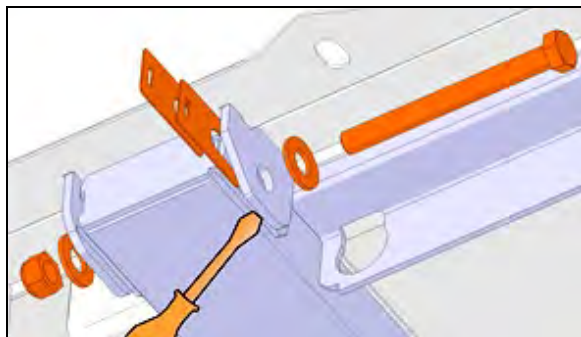

FIGURE 29: SHIM INSTALLATION, TRANSVERSE SCREW. ARRANGEMENT MAY VARY
7. Shim arrangement may vary and may be stacked on both sides (Figure 29).